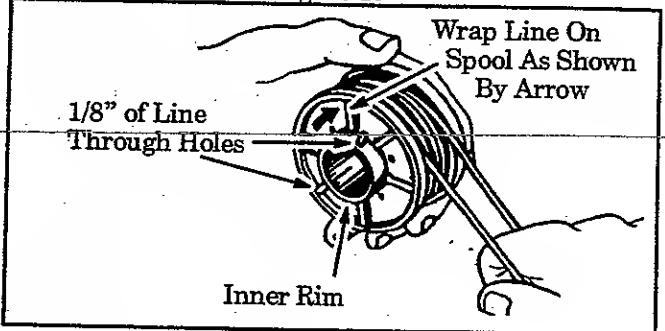

Figure 20
- 3.) Insert 1/16" to 1/8" of the end of each line through two of the holes in the inner rim of the spool. Figure 20. Allow no more than 1/8" line to extend beyond the rim to avoid interference with tapping action.
- 4.) With your finger between the lines, wrap the lines onto the spool firmly and evenly in a clockwise direction as shown by the arrow on the spool. Figure 20.